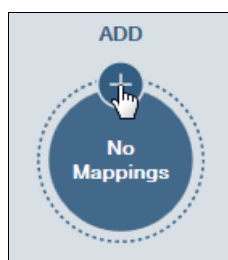

Figure 1-30 Add a mapping
2. The Volume Mapping panel opens (see Figure 1-30). If no mapping exists yet, click the plus sign (+) to add a mapping.